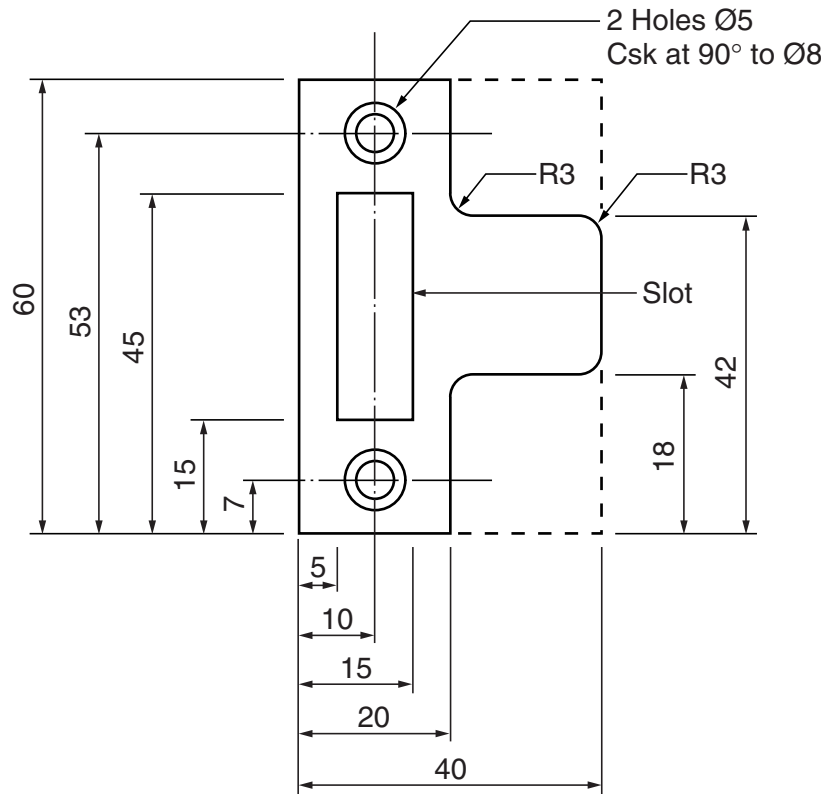

Fig. 1
- 2 Fig. 1 shows a catch plate for a door frame made from a piece of 60×40×1 brass.